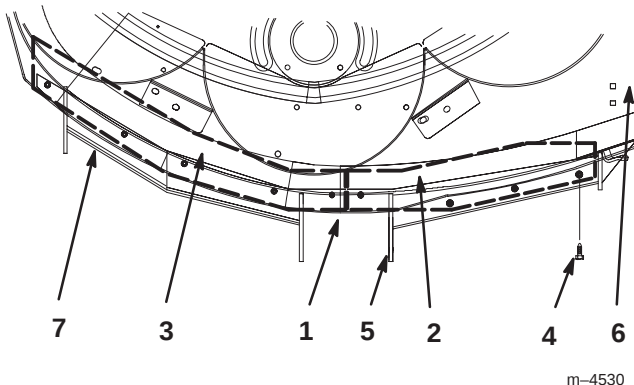

Figure 18
Note: All holes for installing Blowout baffles are drilled (Fig. 18).
7. Place baffles as shown in figure 18.
Note: The baffle edges need to be centered between front roller brackets (Fig. 18).
8. Install screws and tighten securely (Fig. 18).